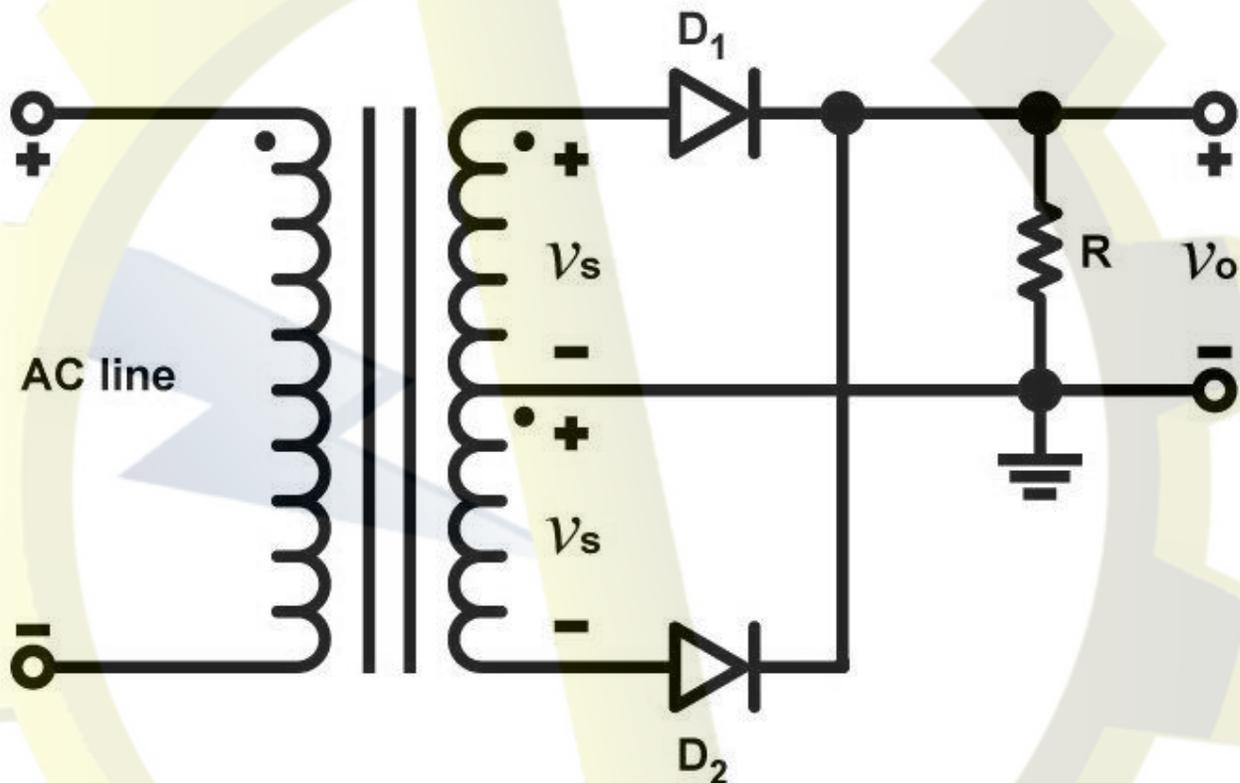

FIGURE 1.3 (A) Full-wave rectifier circuit; the transformer has a center-tapped secondary winding
Unlike the half-wave rectifier, the full-wave rectifier can utilize both the negative and the positive portion of the AC input voltage. In order to achieve a unipolar output, the negative portion of the sinusoidal waveform must be inverted. This can be accomplished by using the circuit shown in Figure 1.3 (A).